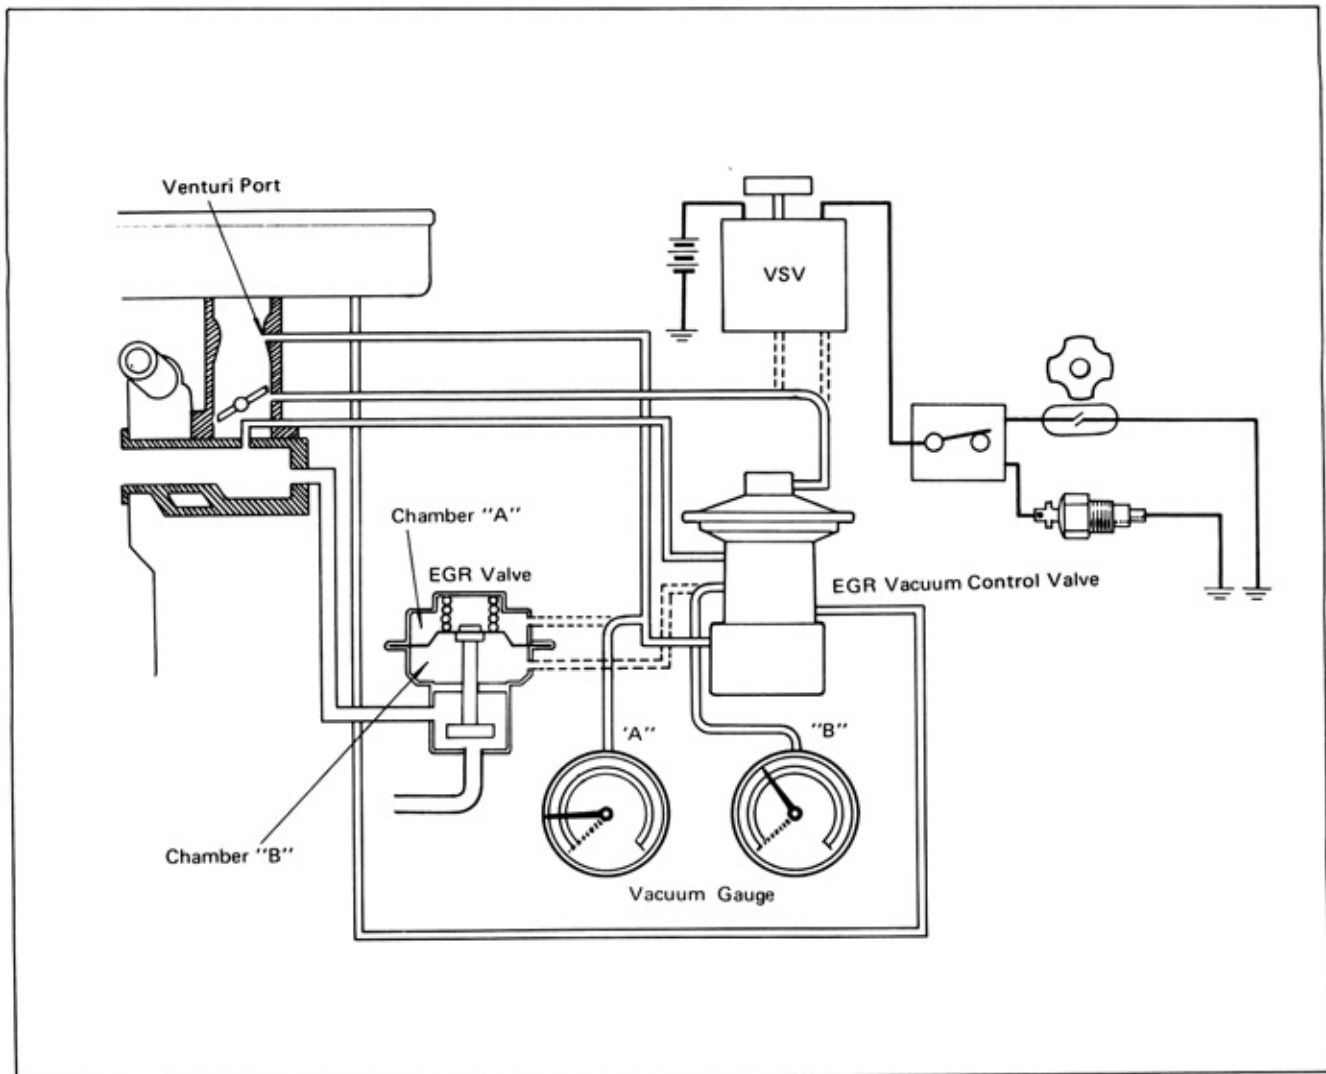

Fig. 18-105 EGR Vacuum Control Valve Inspection (4M)
- (2) EGR vacuum control valve inspection (4M engine)
- a. Connect the EGR vacuum control valve directly to the carburetor advancer port as shown in Fig. 18-105.